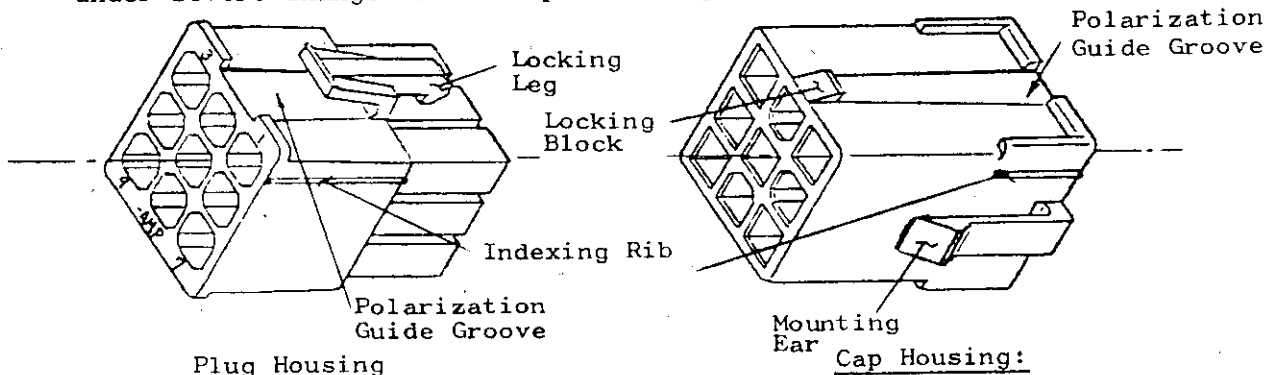

Fig. 2
- (a) Check mating direction orientating groove or locking leg of plug housing and the groove or locking block of cap housing to place them of the same plane, and mate the connectors. (Refer to Fig. 2)